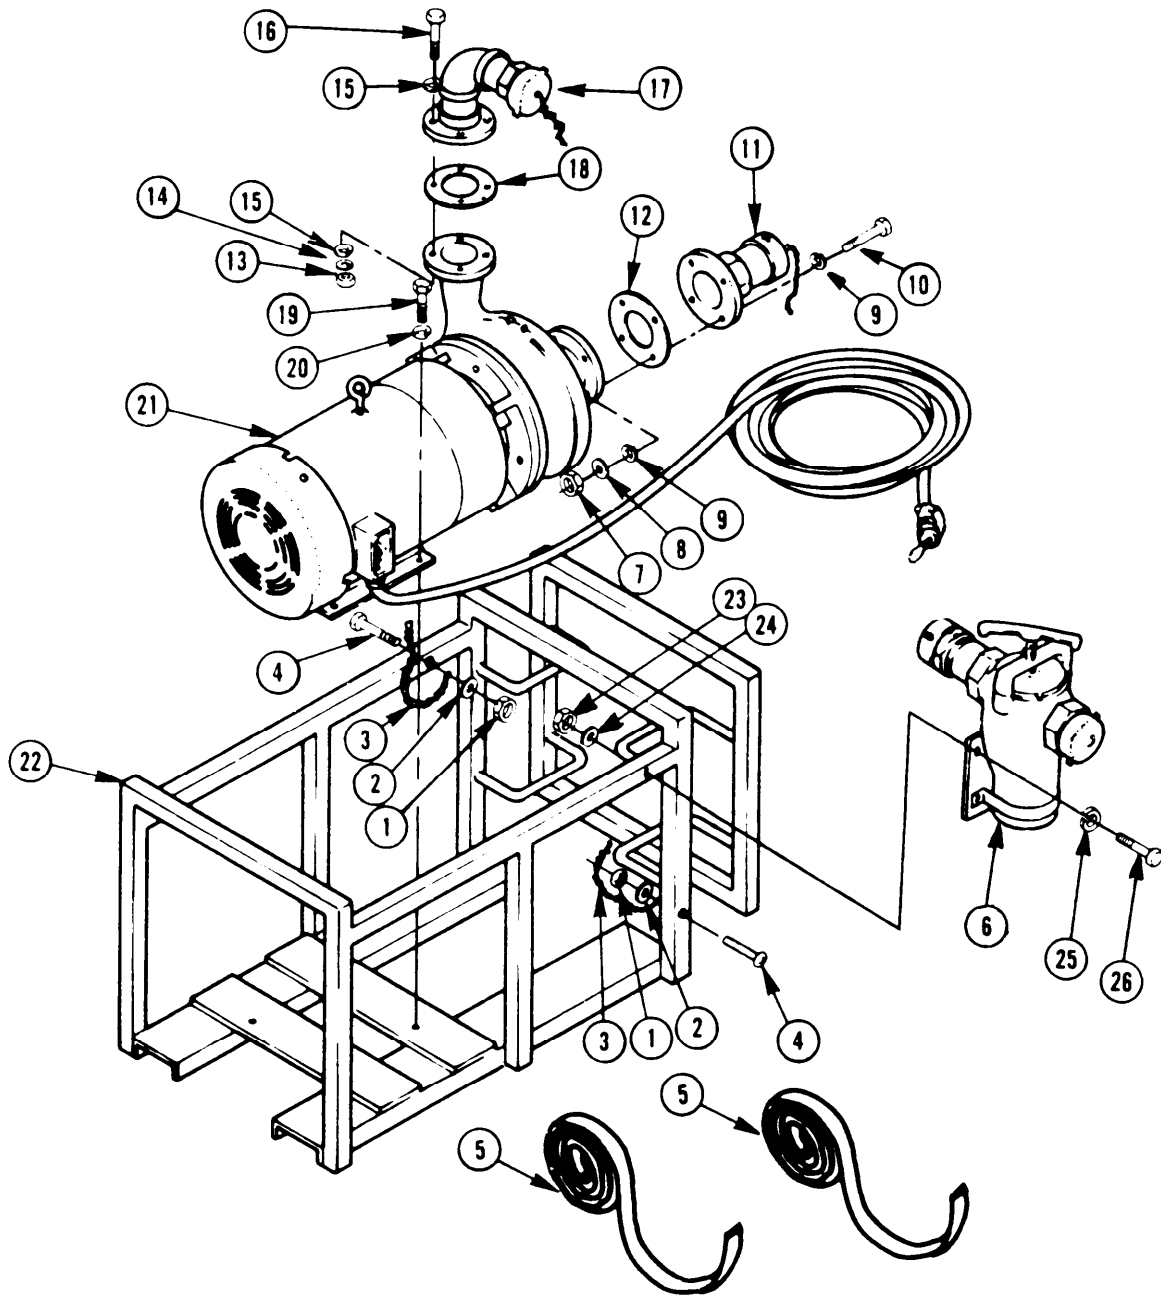

Figure 2-40. Backwash Pump Assembly
c. Backwash Pump Removal From Frame. (Figure 2-40)
(1) If motor is to be replaced, refer to paragraph 2-41 b. If not, unwrap power cable and move bulk of power cable out of the way to remove backwash pump from frame (figure 2-40).
(2) Remove two self-locking nuts (1), two flat washers (2), and two cap chains (3) from screws (4).
(3) Remove two screws (4) from frame (22).
- (1) If existing wire lengths permit, wire terminals may be replaced or faulty wire ends removed; otherwise, replace cable.
- (2) Motor fan cover may have dents removed to prevent interference with fan. If damage is severe or large cracks are present, replace cover.
- (3) Pump frame may be rewelded and frame members straightened or replaced.
- (4) Replace all damaged screws, nuts, bolts, and washers.
- (5) Repair damaged suction and discharge flange assemblies, (refer to paragraph 2-74).
- (6) Replace all gaskets and O-rings.
- (7) Replace damaged or worn strainer straps.
- (8) Replace damaged or unserviceable backwash pump.
- (9) Send damaged or unserviceable pump assemblies to Direct Support Maintenance for repair.
- (10) Repair strainer assembly in accordance with paragraphs 2-41i through 2-41n.
g. Pump Installation. (Figure 2-40)
The backwash pump strainer is attached to the output of the backwash pump. It functions as an extra filter for the brine water during backwash and element cleaning operations. It is towed using two straps to mount it to the backwash pump assembly in figure 2-40.